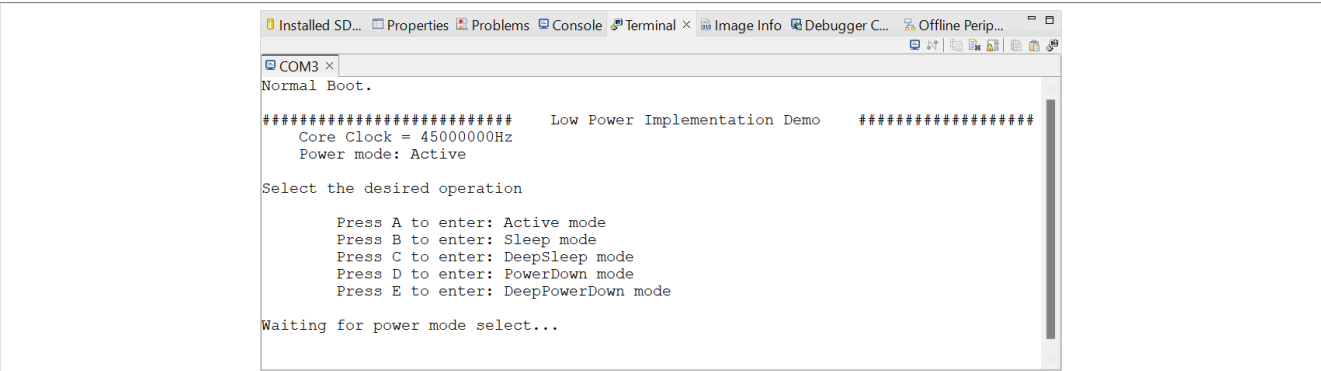

Figure 9. Select low power mode
- 2. Follow the prompts as shown in Figure 9. To enter a different low power mode, enter one of the keys from A to E.